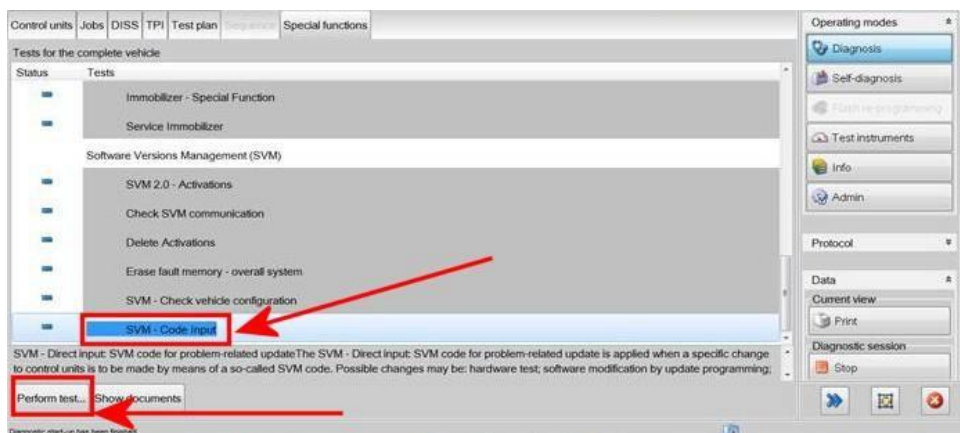

Figure 1
- Within the Special functions tab select 'SVM – Code Input' then select Perform test (Figure 1)